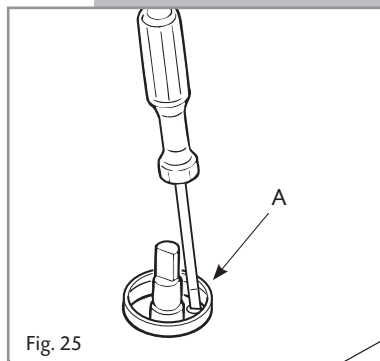

Fig. 25
- Turn the screw **A** to the correct setting with a screwdriver (fig. 25).